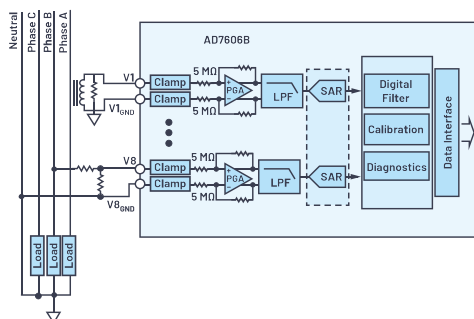

Figure 1. AD7606B in a typical power line monitoring application.
For many applications, monitoring power lines implies the use of current transformers and resistor divider networks in order to sense the three phases and neutral voltages and currents, as shown in Figure 1. The AD7606B, due to its high input impedance, can directly interface with a sensor, easing the data acquisition system design as AD7606B provides all the required building blocks.
In factory trimming, there is tight control over R_{FB} and R_{IN} (5 M Ω typical) on a PGA, such that the AD7606B gain is accurately set. However, if an external resistor is placed in the front end, as shown in Figure 1, the actual gain then differs from the ideal trimmed R_{FB}/R_{IN} .
Traditionally, having a pull-down resistor (R_{PD}) in parallel with the sensor (current transformer shown in Figure 1) allows users to detect when the sensor disconnects by monitoring if an ADC output code lower than 20 LSBs repeats for a number of samples (N).
When using a pair of external resistors, as seen in Figure 1, any mismatch between them will cause an offset. This offset can be measured as the ADC output code when the sensor is shortcut to ground. An offset from -128 LSBs to $+127$ LSBs can be then added to or subtracted from the conversion result by programming the corresponding channel offset register in order to compensate for that system offset.
Ayyeka Wavelet devices track water usage at golf courses and resorts to coordinate water supplies for residential customers (Fig. 1). Furthermore, detailed tracking of reclaimed water usage enables Orange County's Public Works Department to proactively plan for the placement of additional reclaimed storage tanks to meet gradually increasing demand. Highly energetic bobbin-type LiSOCl₂ batteries support bidirectional wireless communications while ensuring maximum uptime with less-frequent battery change-outs.
The Internet of Things (IoT) represents a wide range of vertical markets spanning retail, manufacturing, smart cities, energy and utilities, transportation, public sector, education, hospitality, health and life sciences, automotive, banking, gaming, and entertainment—touching practically every aspect of our human lives (Fig. 1).